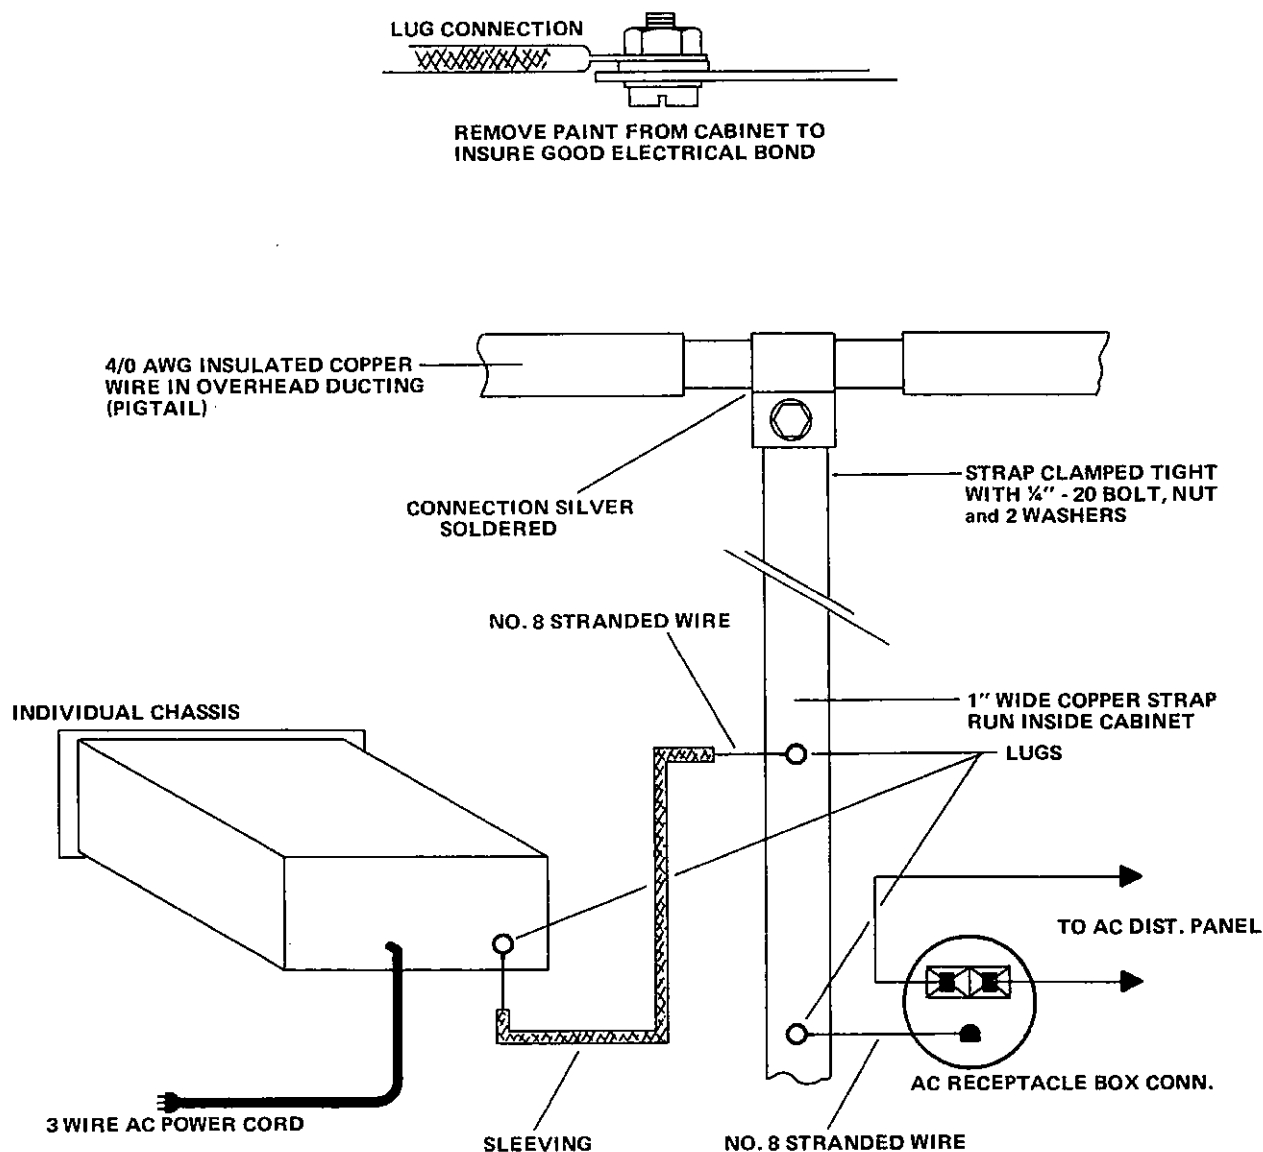

Figure 2.1. Chassis and Cabinet Grounding Details for Overhead Ducting
2.3.2.2 Ground the cabinet to the timer room grounding system (see Figure 2.1 for the overhead ducting scheme). Local connection with the system is made with silver solder and pigtail connections at either the overhead or below floor ducting. Additional grounding information may be found in COMDTINST M10550.15.
2.3.9 Ground all units to the copper strap in the cabinet, according to Figure 2.1.